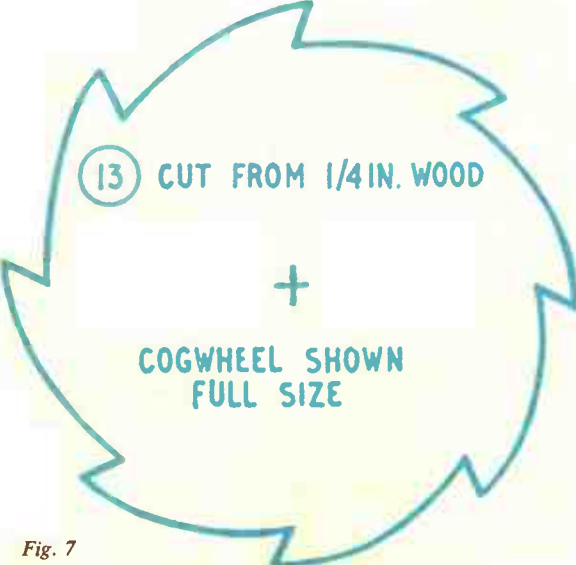
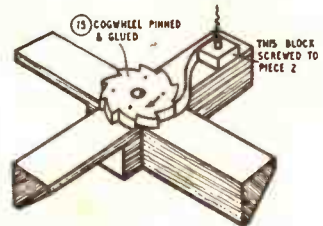

Fig. 7
Fig. 8
Turn your attention now to the ratchet (13) that produces the noise. Cut this to shape as shown full size in Fig. 7 from 1/4 in. wood. Fig. 8 shows the spring just about to drop off the end of a cog. A piece of springy metal is fixed to a small block by means of a screw. The block is in turn screwed to piece 2.